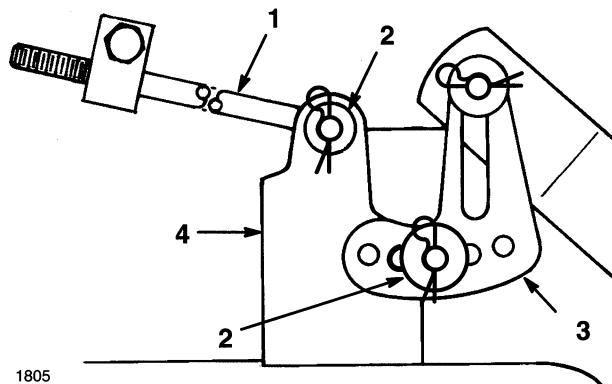

**Figure 6**
5. Remove the lift assist spring between the mower right side lift bracket and the retaining bolt (Fig. 6) Use the spring tool provided with the machine.